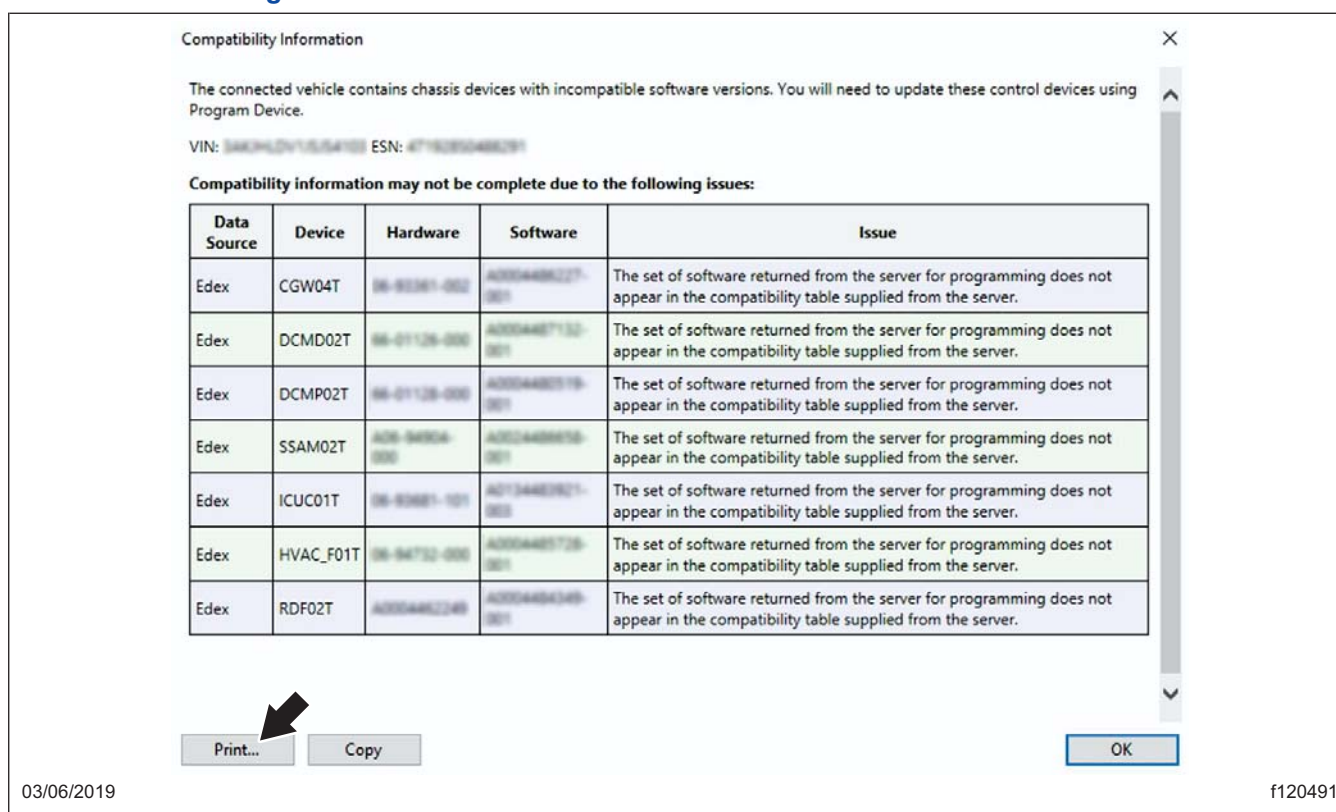

Fig. 11, Printing the Compatibility Information Window
- 14.1 Print or capture a screen shot of the 'Compatibility Information' window; an example of this window is shown in Fig. 11.